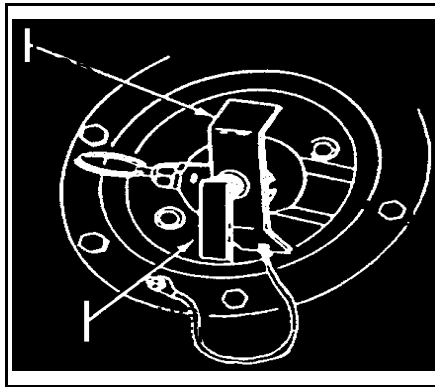

Figure 2. Firing port plug.
3. Install the firing port plug. Insert the plug; press down on the plug lever to lock the plug in place (Figure 2).